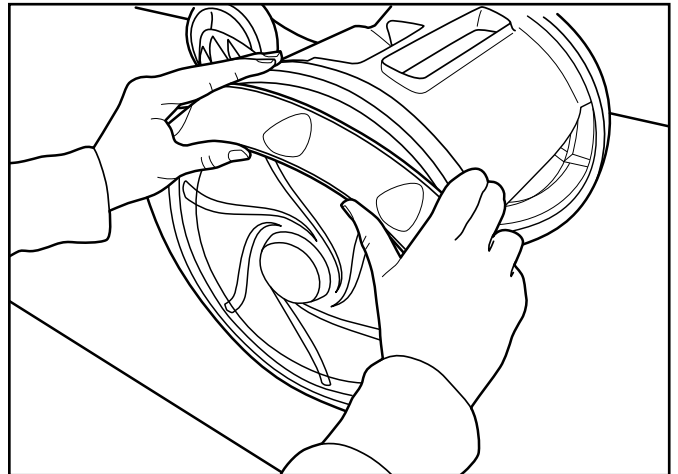

Figure 20. Push Tyre onto the Wheel
4. Push one side of the tyre on to the wheel and fit the tyre onto the wheel as shown in Figure 20.